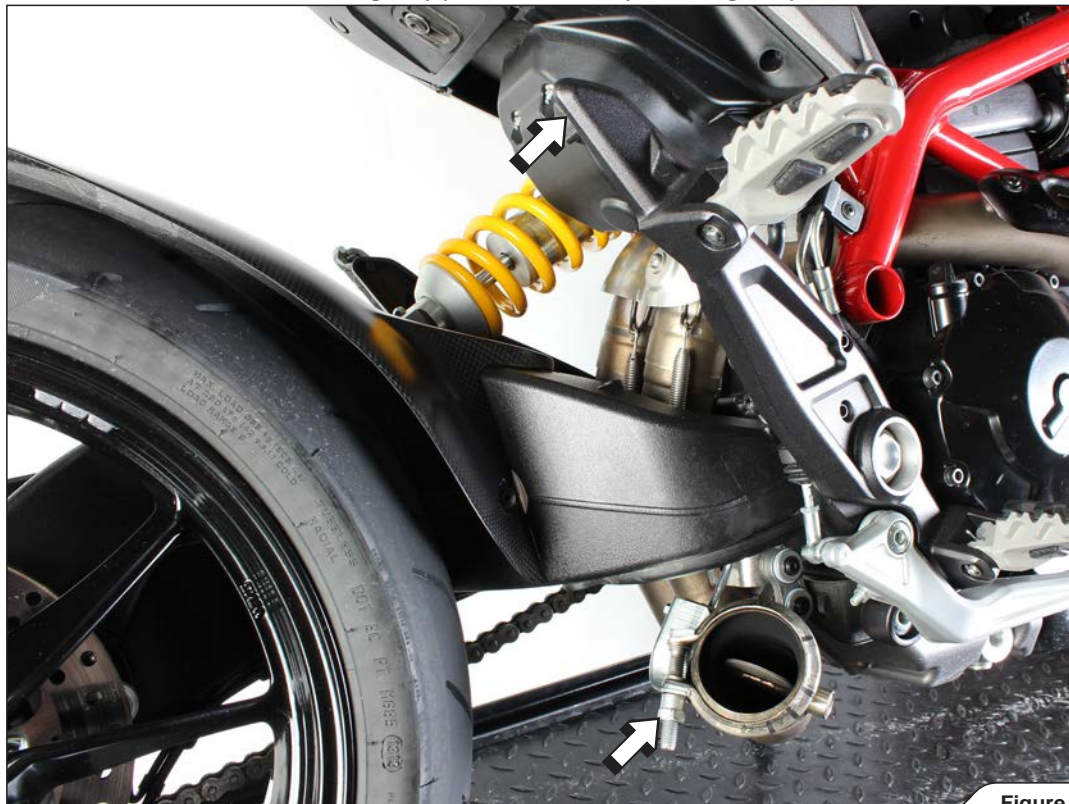

Figure 1
2. Unscrew the clamp at the muffler's inlet pipe - collector joint and muffler's bracket bolt. Carefully remove the muffler (**Figure 1**).